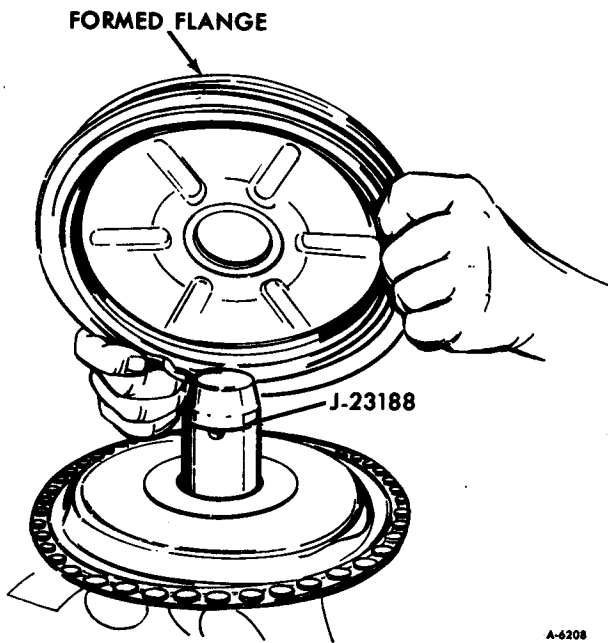

Figure 21—Positioning Housing Divider Over Secondary Bearing Protector Tool J-23188
24. Position secondary Bearing Protector Tool J-23188 on the threaded end of the secondary power piston (figure 21).